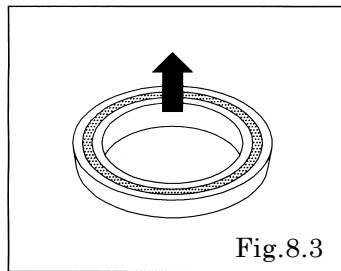

Fig.8.3
- The V Packing must be installed into body with the V facing out towards the air chambers. [Fig.8.3]